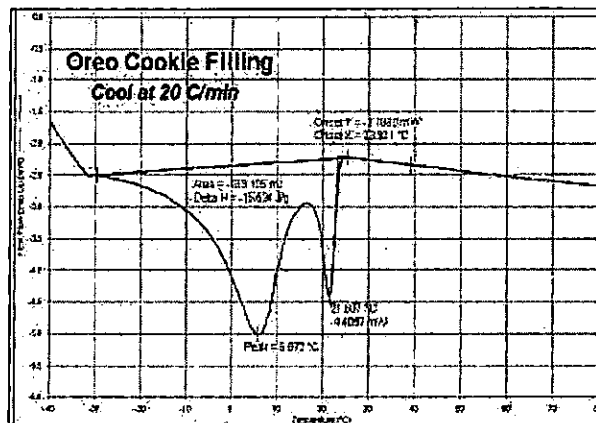

Figure 3: DSC cooling results for Oreo cookie filling.
The Power Compensation DSC also provides excellent results during cooling experiments. Fats yield well-defined crystallization events during cooling and this information is valuable for characterization and process control purposes. Displayed in Figure 3 are the DSC results generated for the Oreo cookie filling by cooling from 100 to -60 °C at a rate of 20 °C/min. The crystallization of a fat component occurs sharply at 23 °C. The cooling data reflects two different crystallizable fats in the cookie filling.
The electrospinning technique involves a simple, rapid, inexpensive, electrostatic, nonmechanical method in which a polymer solution in a variety of different possible common solvents, including water, is placed in a hypodermic syringe or in a glass pipette, at a fixed distance (5-30 cm) from a metal cathode [24]. The positive (anode) terminal of a variable high voltage transformer is attached to the metal tip of the hypodermic syringe or to a wire inserted into the polymer solution in the glass pipette, the negative terminal being attached to the metal cathode. The tip of the syringe can be placed vertically over the cathode or at any other convenient angle to it. When the voltage applied between the anode and cathode reaches a critical value, *ca.* 14,000 V at a *ca.* 20 cm separation, the charge overcomes the surface tension of the deformed drop of the polymer solution on the tip of the syringe and a jet is produced. Since the polymer molecules all bear the same (positive) charge, they repel each other while travelling in air during a few milliseconds from the anode to cathode and become separated [25]. At the same time, evaporation of the solvent molecules occurs rapidly. Evaporation of solvent is also enhanced because the similarly charged (positive) solvent molecules repel each other. Under appropriate conditions, dry, meters-long fibers accumulate on the surface of the cathode resulting in a nonwoven mesh of nano- to micron-diameter fibers depending on experimental parameters (Figure 3).
**Figure 3.** 50 wt% Nanofiber blend of PAN · HCSA fabricated from 2 wt% PAN · HCSA and 2 wt% PEO from chloroform solution at 25,000 V (anode/cathode separation, 25 cm). Scale bar: 100,000 nm.